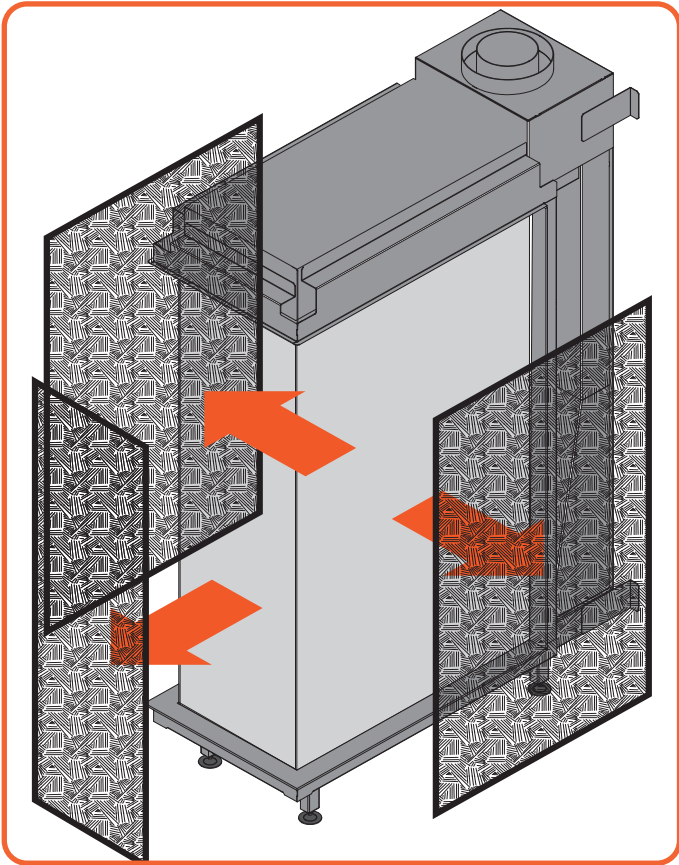

Figure 11.3 - Remove safety screens for tunnel model
- Remove the safety screen(s) from their holders. The safety screens are held by magnets (**Figure 11.3**).